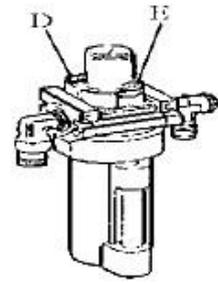

Fig 9
Unscrew with hex wrench (E). Based on connection of compressed air, first to tread Jaws open and close Pedal or Turntable Rotation Pedal 5-6 times, and then check whether oil in Oil Fog Maker drops down a drip of oil. For continuous operation, tread twice every time, drop down a drip of oil, otherwise adjust the screw (D) that controlled oil enter with minus screwdriver. (Fig 9)